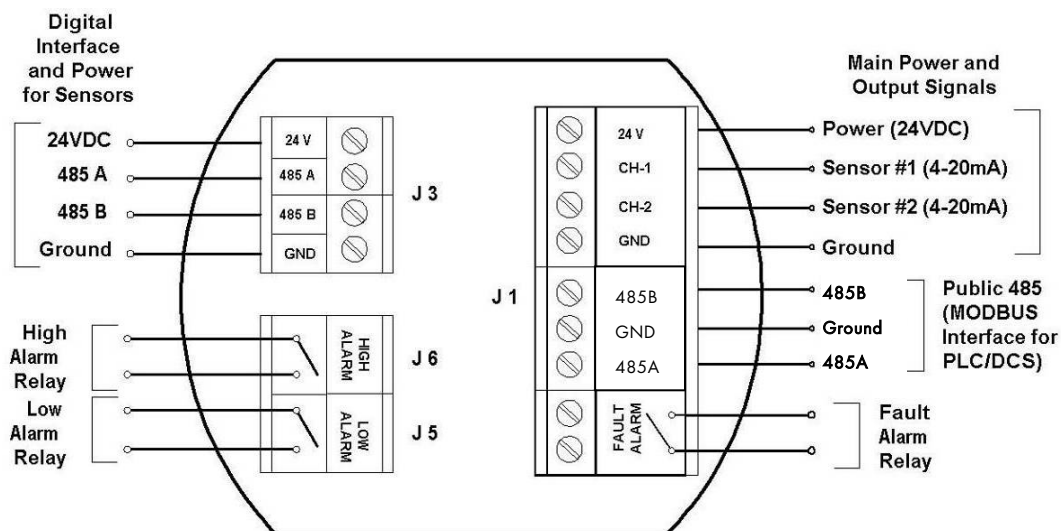
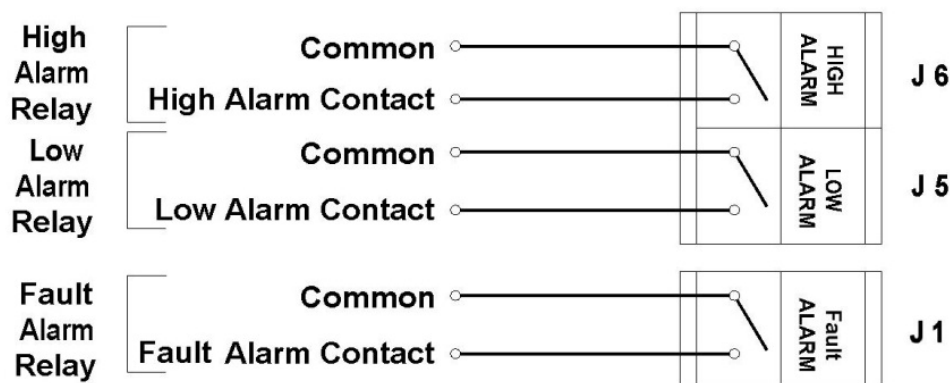

FIGURE 2-4 Electronics Module for iTRANS-2 (Main Unit)
FIGURE 4-1 Alarm Relay Connectors J6, J5 and J1
The electronics module of the **iTRANS-2** gas monitor contains connectors and jumpers for wiring and configuring the device. The electronics module for a main **iTRANS-2** unit is shown in FIGURE 2-4. The electronics module for a remote unit is shown in
To connect the **iTRANS-2** control wires to the three relay terminals on the relay board, wire the unit to the connectors shown in FIGURE 2-4. The low alarm relay is activated when the low alarm threshold is met. This is a non-latching, Normally Open (NO) contact. The high alarm relay is activated when the high alarm threshold is met. This is a non-latching, Normally Open (NO) contact. The fault alarm relay is activated upon power-up of the **iTRANS-2**. When the fault condition is met, the circuit opens. This is an Electronically closed (NC) contact. See FIGURE 4-1 for relay wiring.